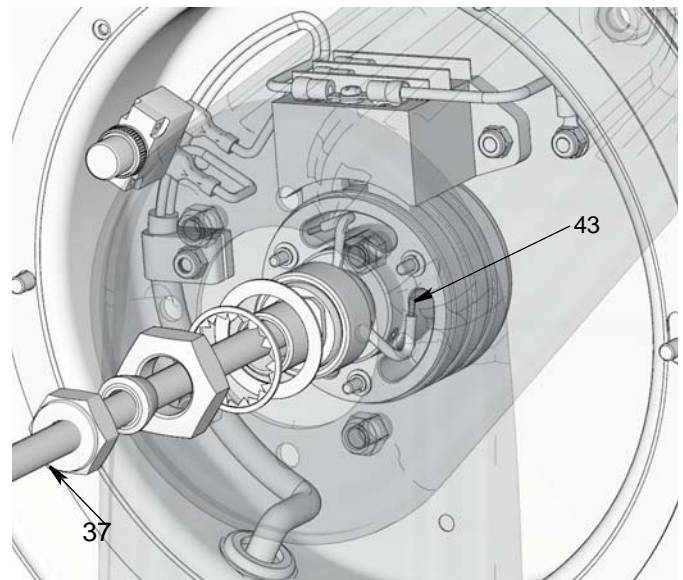

FIG. 15
4. Cut wire at ring terminals (43). (FIG. 15)
5. Remove power cord (37). (FIG. 15)